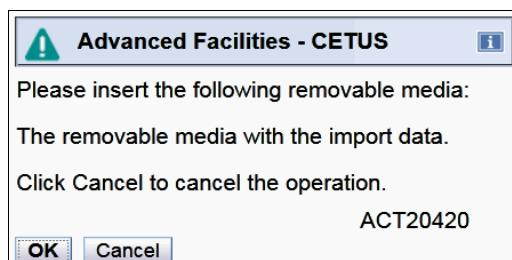

Figure 7-22 Insert media
6. You are prompted to insert the media (Figure 7-22). Click **OK**.